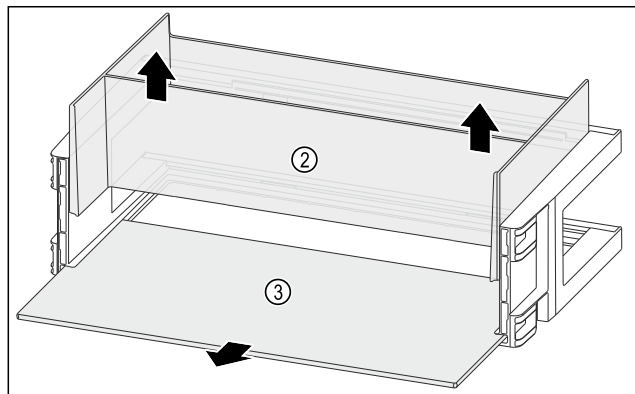

Fig. 141
- ▶ Remove the organiser Fig. 141 (2) upwards.
- ▶ Remove the shelf Fig. 141 (3).